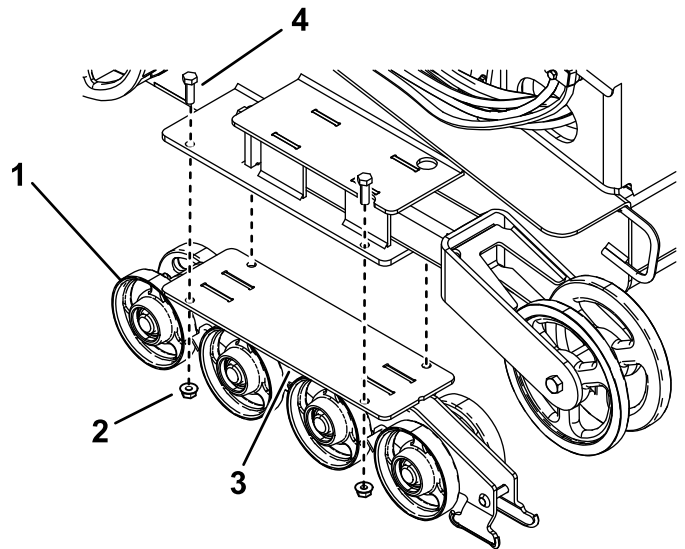

Figure 49
4. Remove the 4 bolts and nuts securing each lower track guide which contains the road wheels, and remove them (Figure 49).